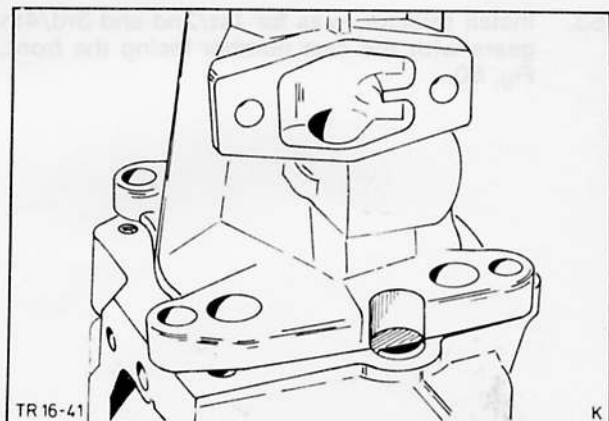

Fig. 57. Extension housing lined up
49. Line up extension housing, coat bolts (4) with sealing compound and insert then tighten, Fig. 57.